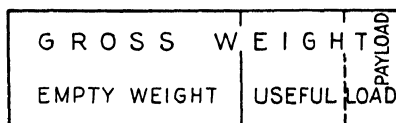

Fig. 166.
6. Explain the diagram in Fig. 166.